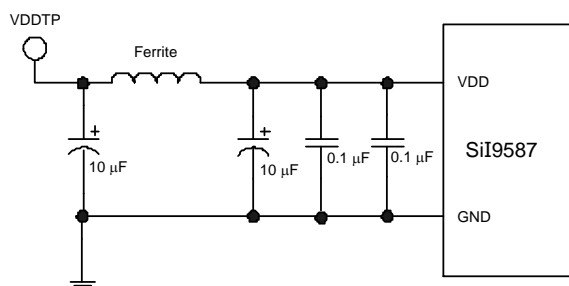

Figure 3.1. Test Point VDDTP for VDD Noise Tolerance Spec
1. The supply voltage noise is measured at test point VDDTP shown in Figure 3.1. The ferrite bead provides filtering of power supply noise. The figure is representative and applies to other VDD pins as well.